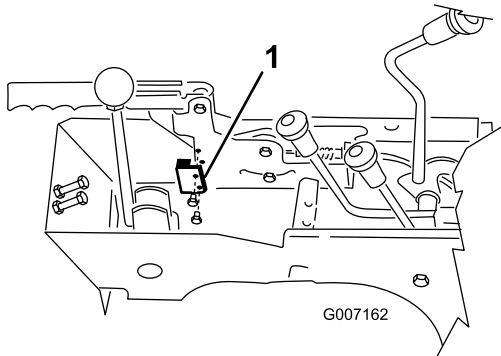

Figure 11
1. Mount the parking brake switch to the parking brake mount with 2 screws as shown in Figure 11.